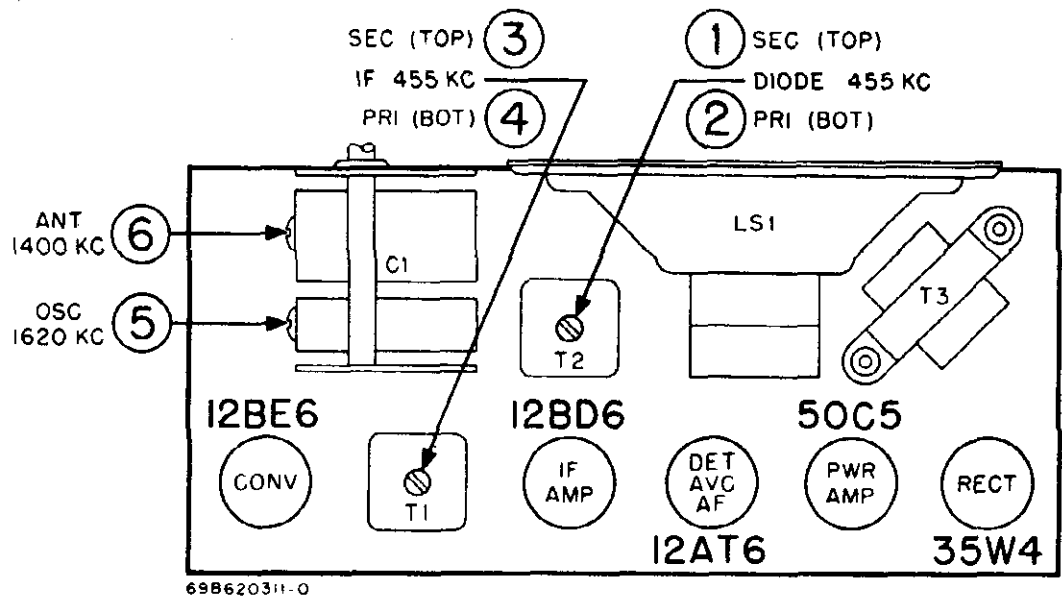

FIGURE 2. TUBE AND TRIMMER LOCATION
7. See Figure 2 for adjustment locations and the following chart for procedure.